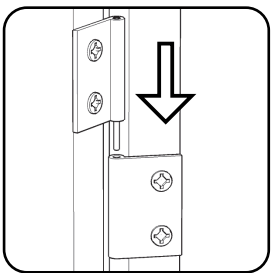

Figure 4
Attach Doors (T) and (U) to unit by sliding door hinges into side panel hinges. (See Figure 4)